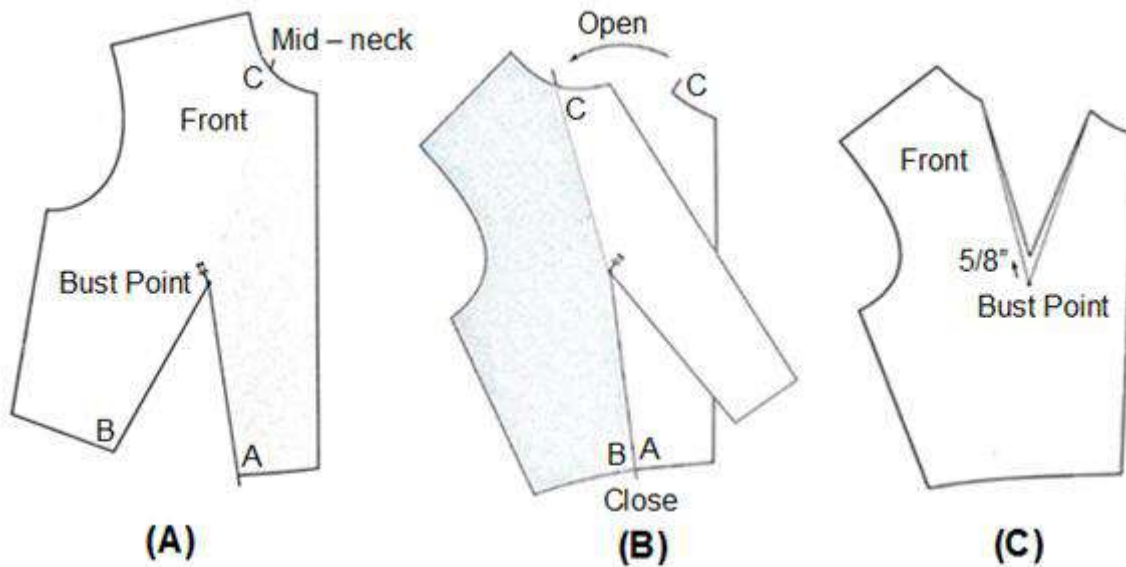

Figure 1.3: pivotal transfer
- ✓ Trace the section of pattern from dart leg a to c on new paper. (fig. 1.3 (a)).
- ✓ Trace the remaining section of the pattern from dart leg b to point c on the pattern. (shaded area in figure) (fig. 1.3 (b)).
- ✓ Mark the centre the dart point 5/8" from the bust point. Redraw dart legs to the dart points. (fig. 1.3 (c)).